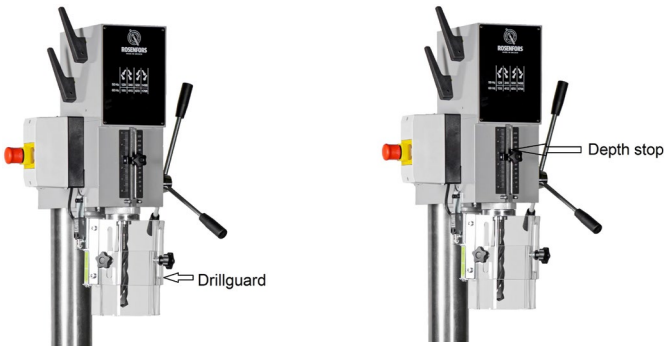

Figure 2a - Chuck guard (for machines within the EU). Figure 2b - Depth gauge (3).
- The chuck guard (figure 2a) must always be used. For safety reasons, the chuck guard is equipped with a micro switch.